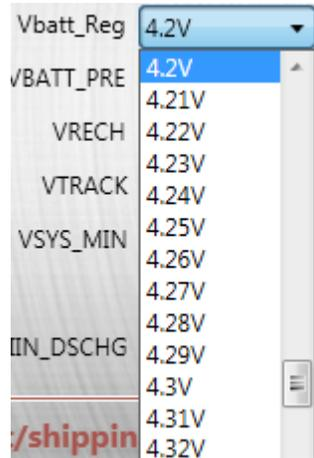

Figure 11: Setting the Charge Full Voltage
- The default value is 4.2V (see Figure 11 on page 8).